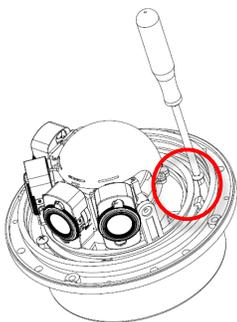

Figure 18: Loosen both screws aside of gimbal bracket
3. To adjust the pan, use a #2 Phillips screwdriver to loosen both screws on the sides of the plastic gimbal bracket as shown in Figure 18.